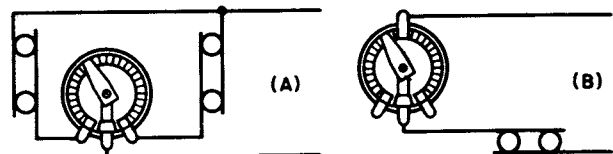

Fig. 84: Fader circuits arranged for continuous rotation
Ohmite rheostats arranged for motor drive are often used as faders in advertising displays. Such rheostats are of the bridged gap type (page 24) for continuous rotation. Fig. 84 (A) shows a method of using one rheostat to fade between two lamp banks (both going out as the arm passes the center lead). Figure 84 (B) shows a method for gradually bringing a lamp from out to full on and back to out once every revolution.